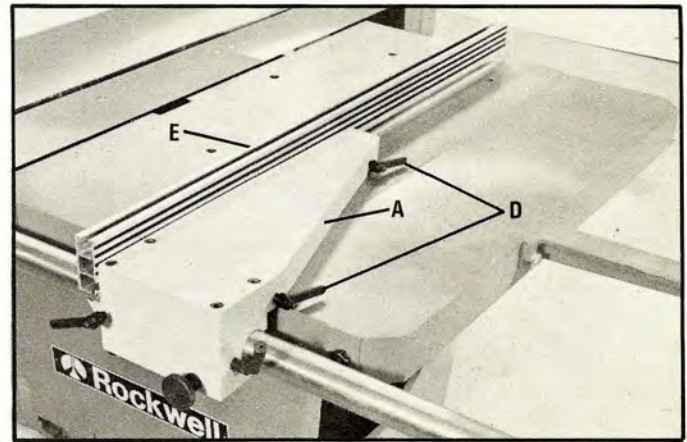
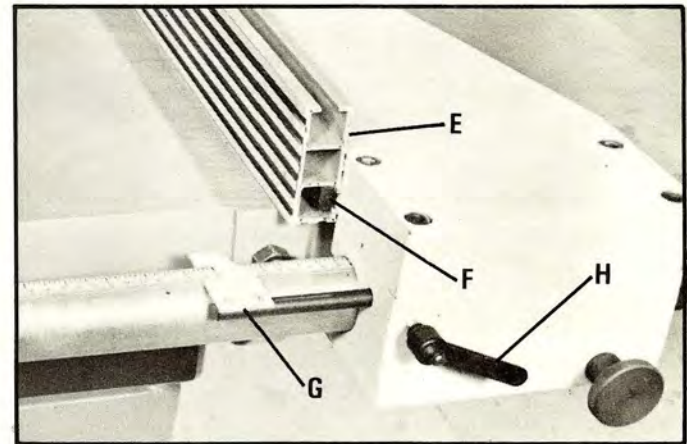

Fig. 14
Fig. 15
4. Loosen clamp handles (D) Fig. 14, and slide rip fence (E) onto clamp bar (F) Fig. 15. Position rip fence as desired and tighten clamp handles (D) Fig. 14. The rip fence can also be assembled in the horizontal position. NOTE: Clamp handles (D) Fig. 14, can be reset for best clamping action by pulling out on spring loaded handles (D) and positioned as desired.
5. Loosen clamp handle (H) Fig. 15, and assemble rip scale pointer (G) as shown.